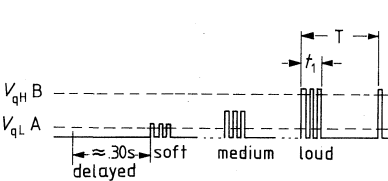

Figure 5
**Tone I** (see fig. 5)H output voltage (loud)